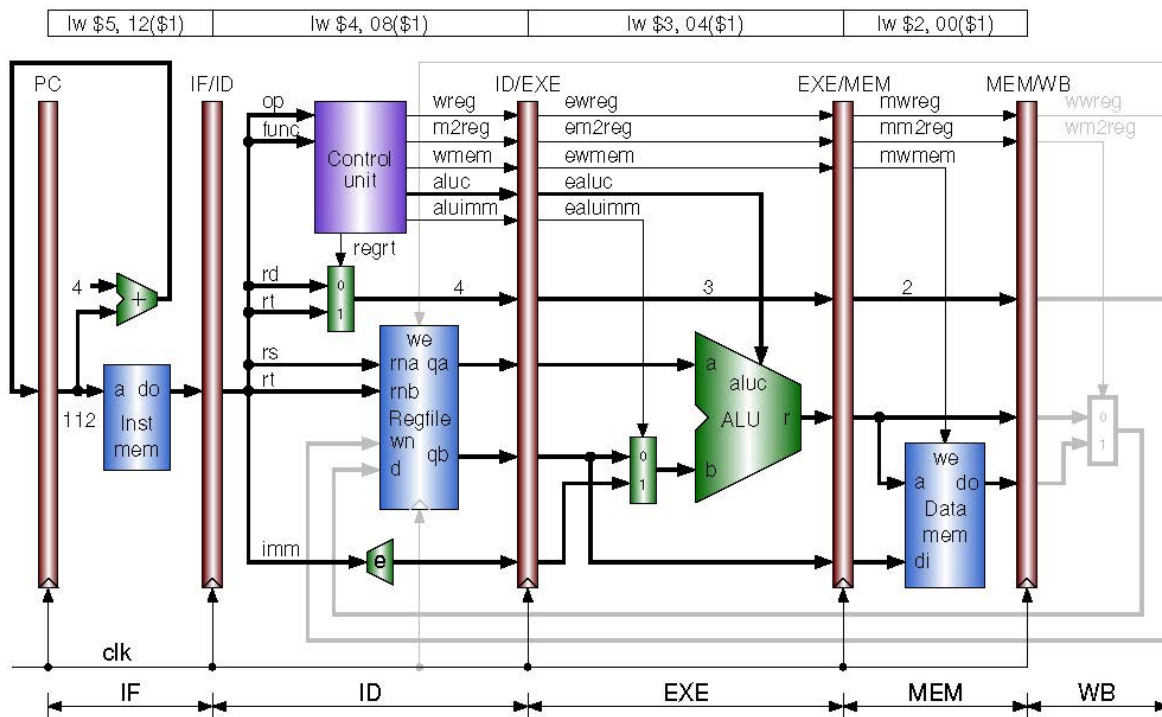

Figure 2 Pipeline memory access (MEM) stage
Referring to Figure 2, (8.6) in the fourth cycle of the first instruction entered the MEM stage. The only task in this stage is to read data memory. All the control signals have a prefix “m”. The second instruction entered the EXE stage; the third instruction is being decoded in the ID stage; and the fourth instruction is being fetched in the IF stage. All the five pipeline registers are updated at the end of the cycle.
9. Write a Verilog code that implement the following instructions using the design shown in Figure 2. Write a Verilog test bench to verify your code: (You have to show all the signals written into the MEM/WB register and output from EX/MEM register in your simulation outputs)